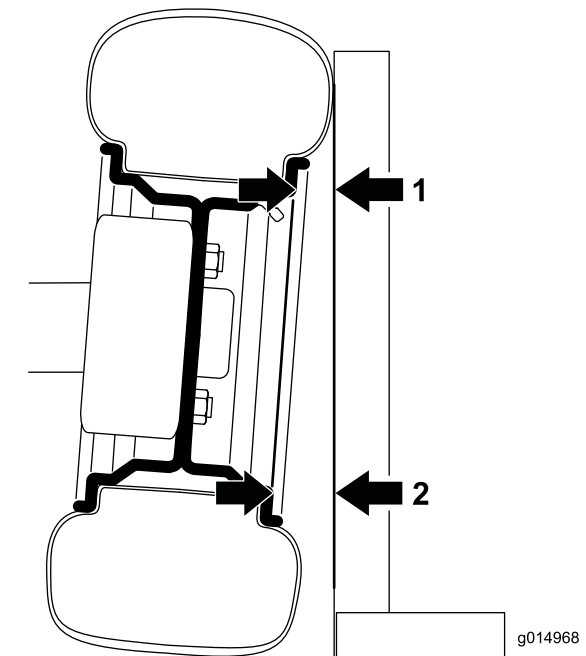

Figure 31
1. To check the camber, place a 90 degree square on the ground with the vertical edge touching the face of the tire (Figure 31).
2. Measure from the same part of the rim on the top and bottom of the tire to the square (Figure 31). The distance of the bottom measurement should be 0.09 inch (2.3 mm) larger than the top measurement. Complete the measurement on both front tires before adjusting.